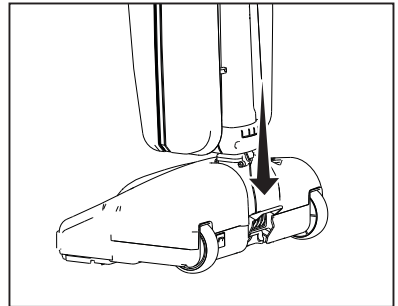

Fig. 1
- Press the handle release pedal once for normal vacuum cleaning (Fig. 1).